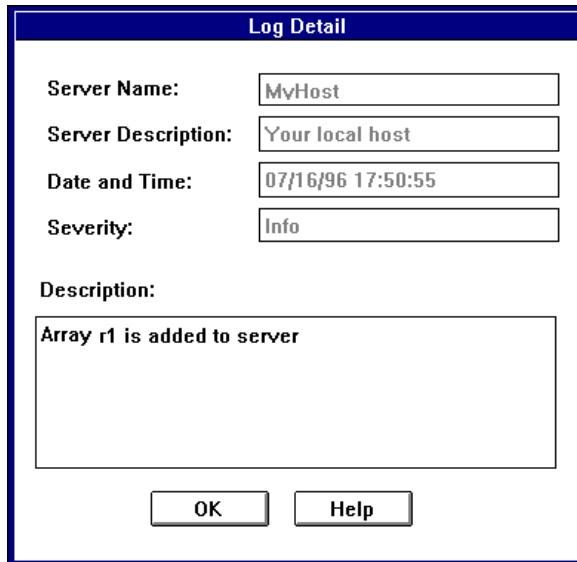

Figure 7-4. Log Detail Dialog Box
- 3 To view detailed information about an event, double-click the list entry. The Log Detail dialog box appears, as shown in Figure 7-4.
- 3 To view detailed information about an entry on the list, double-click the entry. The Log Detail dialog box appears, as shown in Figure 7-4 on page 7-8.